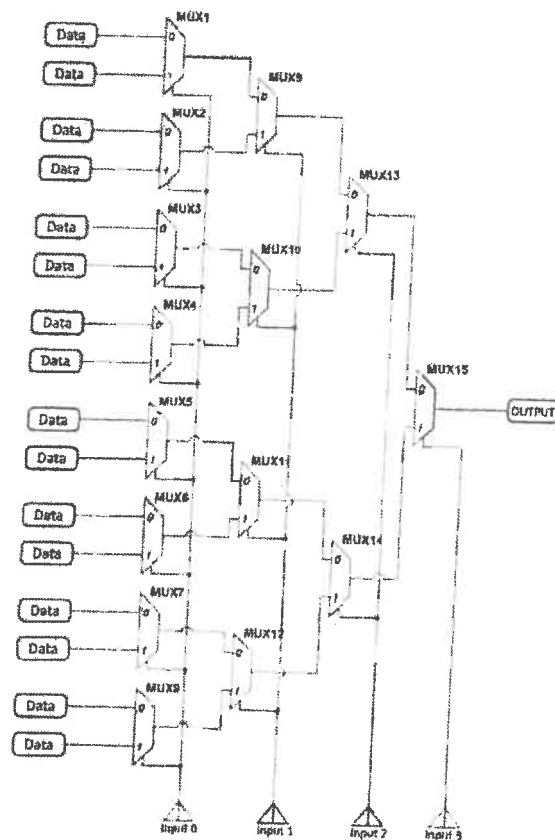

Figure 2. A 4-Input LUT Structure
The basic FPGA structure consists of thousands of basic elements called Configurable Logic Blocks (CLB). These basic structures can be called Logic Blocks (LB), Logic Elements (LE) or Logic Cells (LC) according to the manufacturer (Gunes & Ors, n.d.). CLBs are formed by combining a set of logic elements such as a LookUp Table (LUT) and flip flops (FF). The hardware architecture of the FPGA consists of the data stored in these LUTs. The working principle of a 4-input LUT is illustrated in Figure 2.